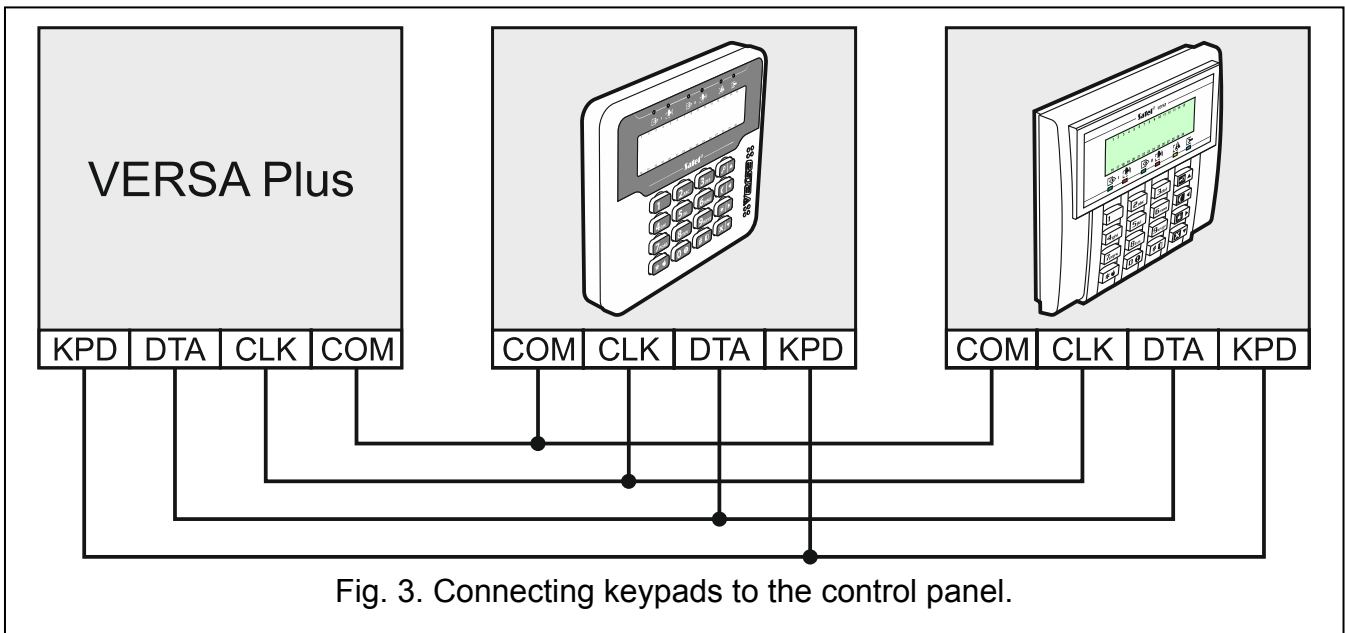

Fig. 3. Connecting keypads to the control panel.
6. Connect the keypad terminals to the corresponding terminals of the control panel (see: Fig. 3).